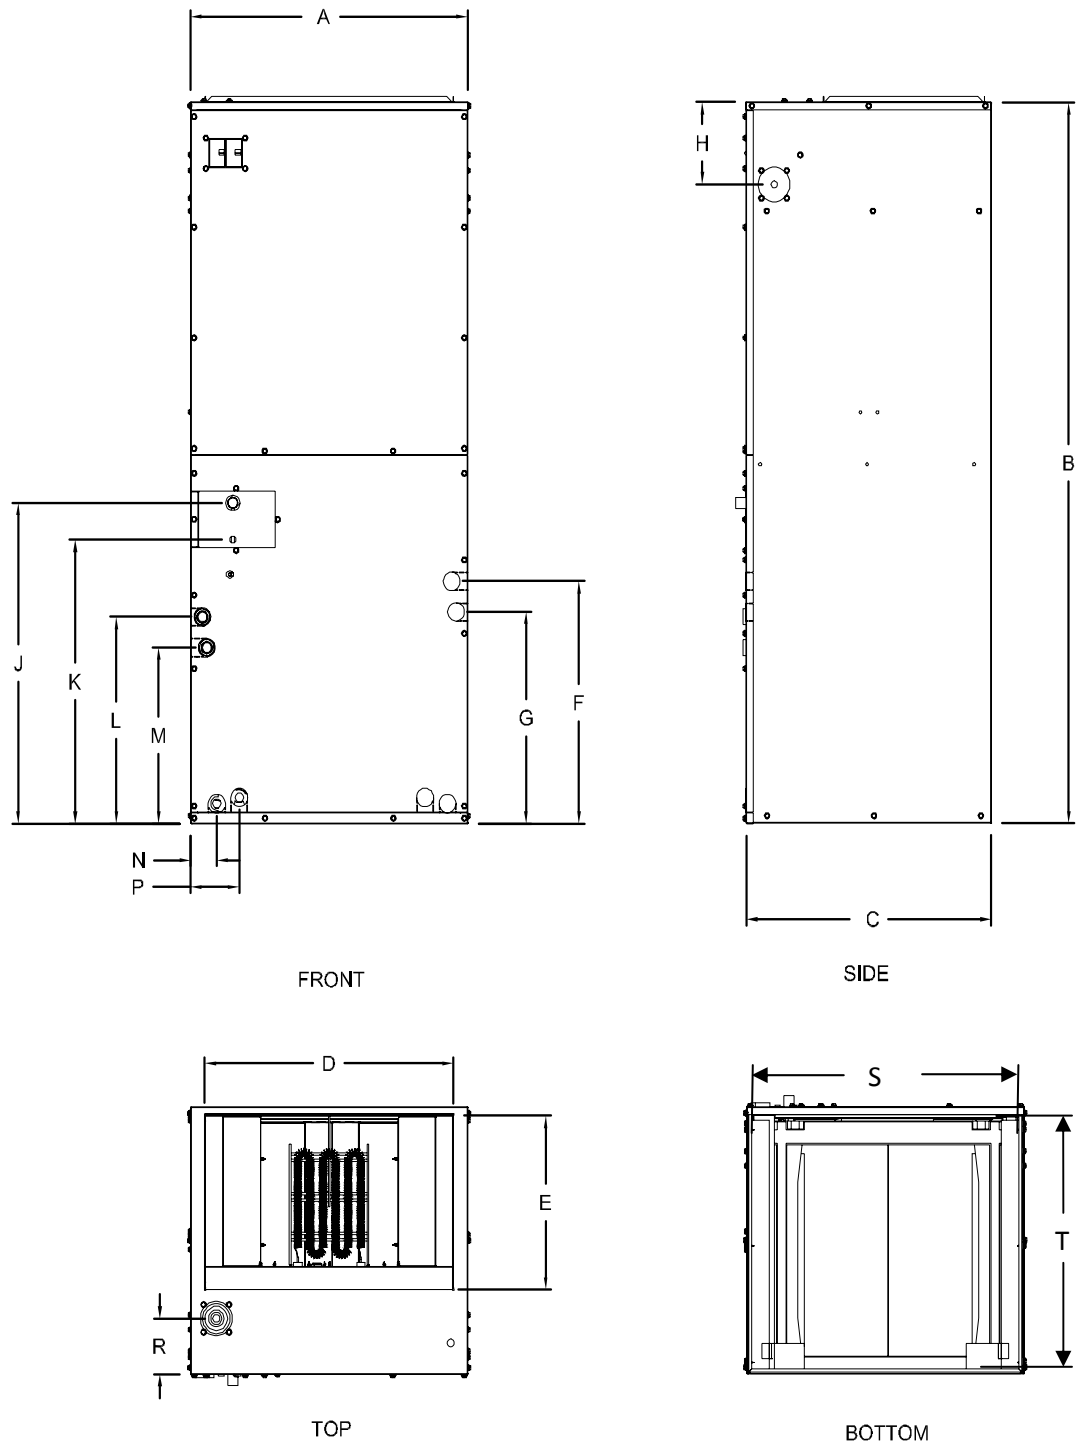

Figure 1: DIMENSIONAL DATA DX COOLING WITH OR WITHOUT ELECTRIC HEAT
1. Refer to the unit rating plate for the air handler model number, and then see the dimensions page of this instruction for return air plenum dimensions in Figures 1 and 2. The plenum must be installed according to the above listed codes or the instructions in this manual.